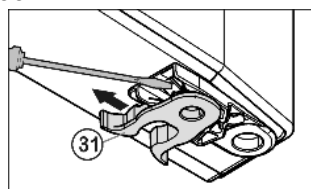

Fig. 7
- ▶ Transfer the spring clamp Fig. 7 (31): Depress the latch nose and pull the spring clamp off over it.